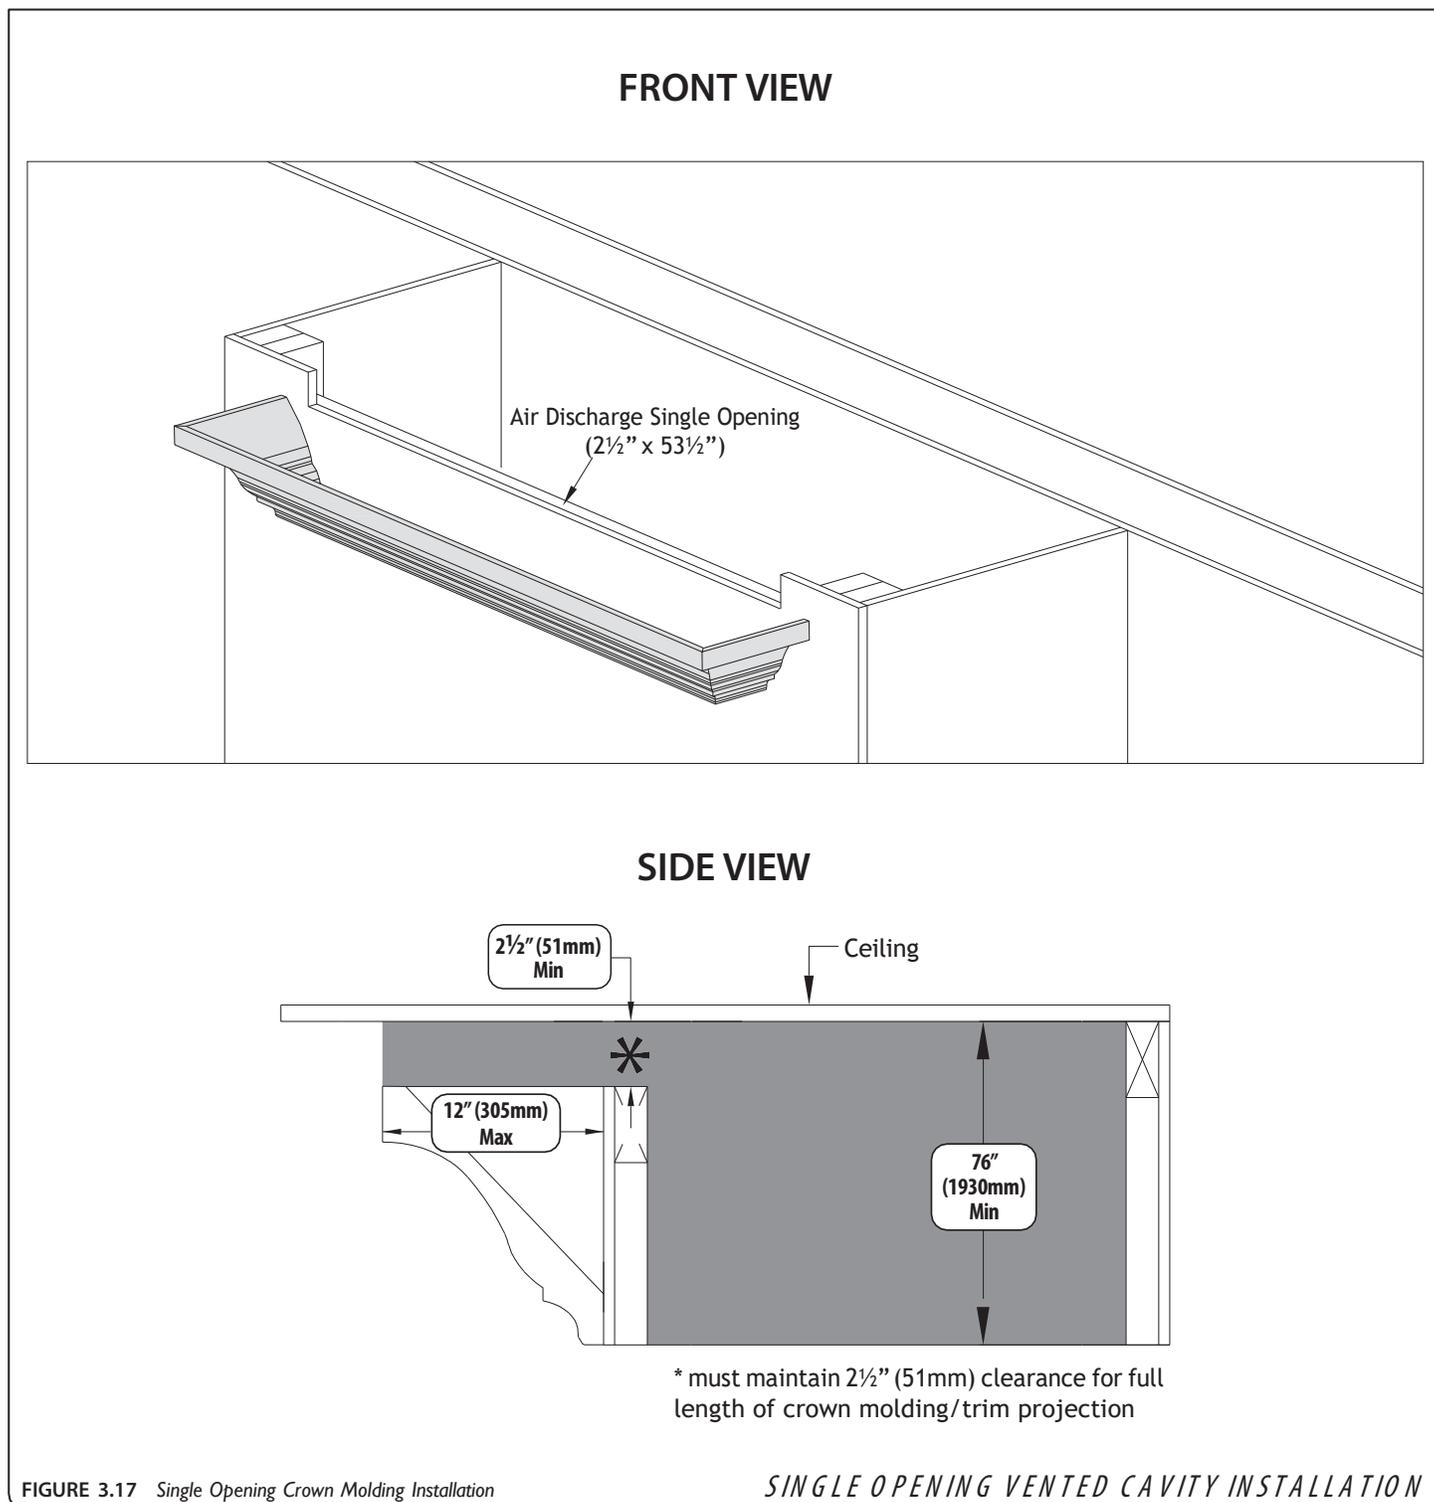

FIGURE 3.17 *Single Opening Crown Molding Installation*
- **FIGURE 3.17** shows the installation of crown molding or similar trim work that goes up to the edge of the air discharge opening. 12" (305mm) is the maximum length of the molding or trim projection and you must maintain 2-1/2" (51mm) clearance for the full length of crown molding/trim projection. This molding or trim cannot decrease the minimum opening requirement.